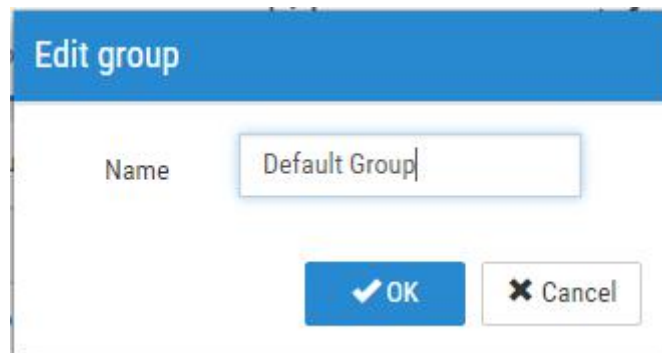

Fig. 4.6-3 The "Edit group" dialog
(2) After click the " " button in the "Operation" column, the "Edit group" dialog will pop up, as shown in Fig. 4.6-3. In this dialog, you can modify the name of the current group. After you modify the group name, click the "OK" button to confirm.